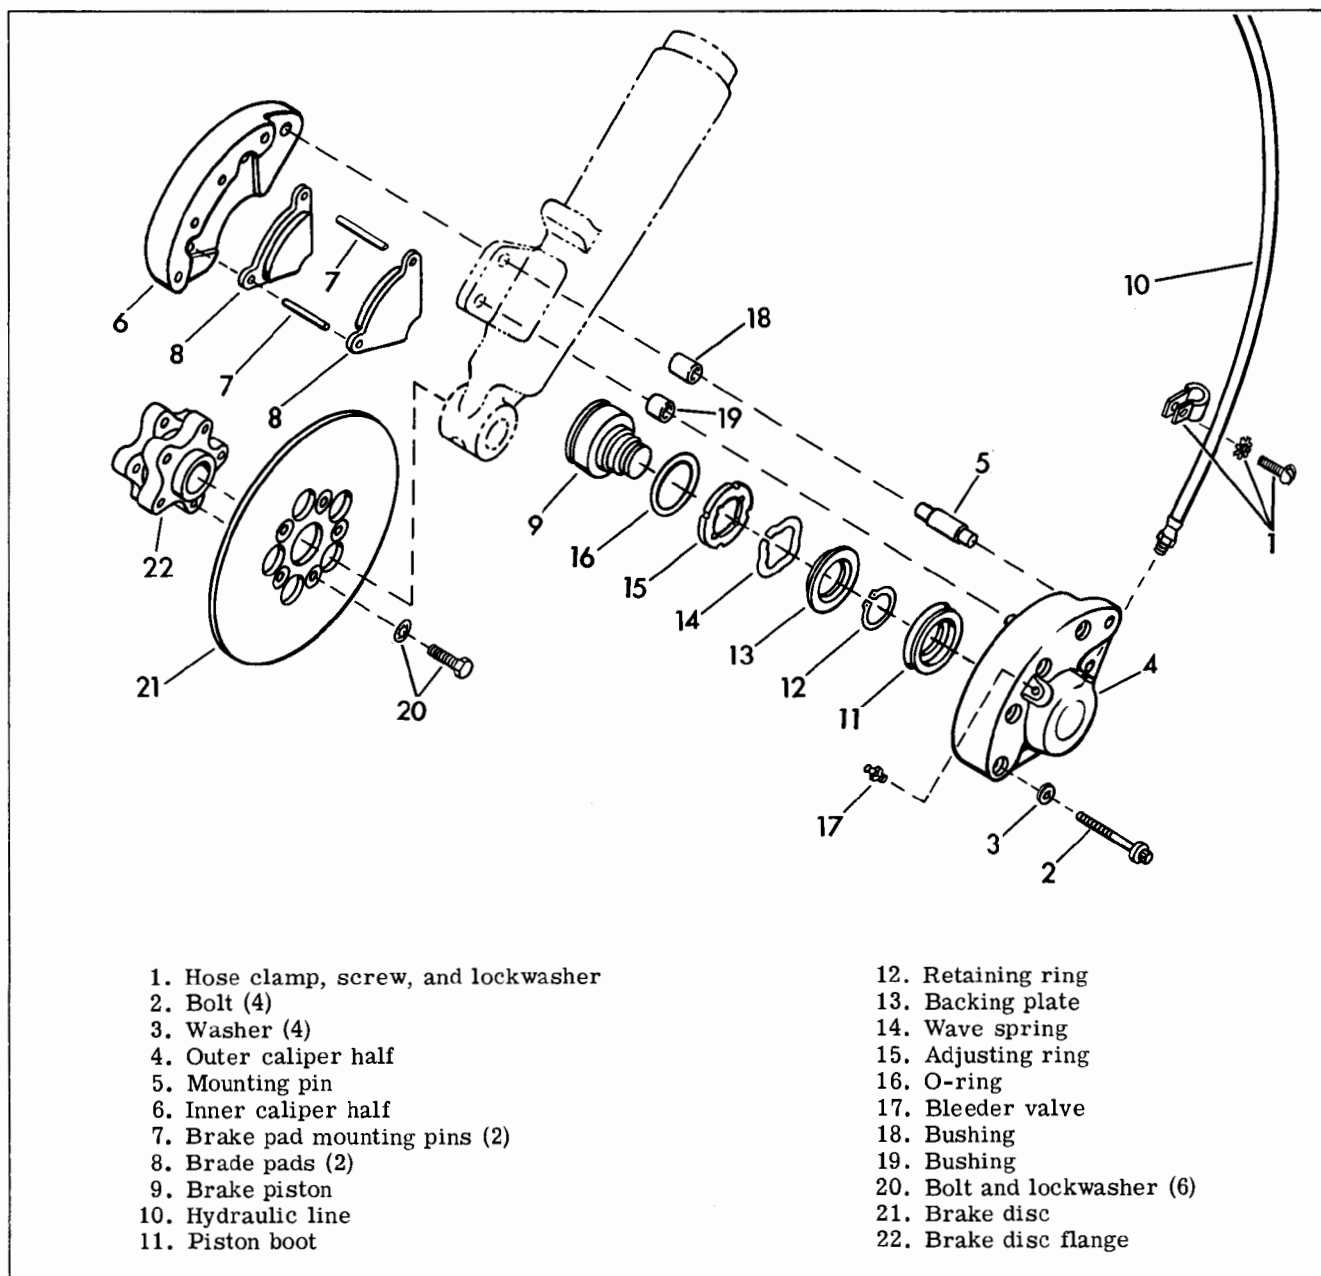
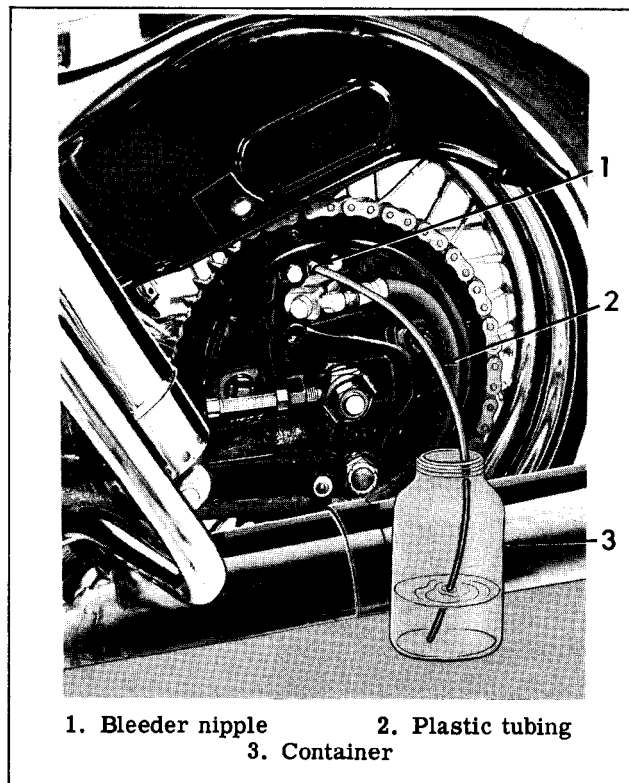

Figure 2-39D. Front Disc Brake, 1972 and Later Electra Glide - Exploded View
Figure 2-45. Bleeding Hydraulic Brake System
DISASSEMBLING FRONT DISC BRAKE CALIPERS (Figure 2-39D)
REASSEMBLING FRONT DISC BRAKE CALIPERS (Figure 2-39D)
REMOVING AND INSTALLING FRONT BRAKE DISC (Figure 2-39D)
1. After servicing hydraulic brake system where any hydraulic line or cylinder is opened, it is necessary to bleed the system to expel all air. See Figure 2-45.
2. Slip a length of appropriate size plastic tubing (2) over wheel cylinder bleeder nipple (1, Figure 2-45 or 17, Figure 2-39D) with the other end in any container (3).